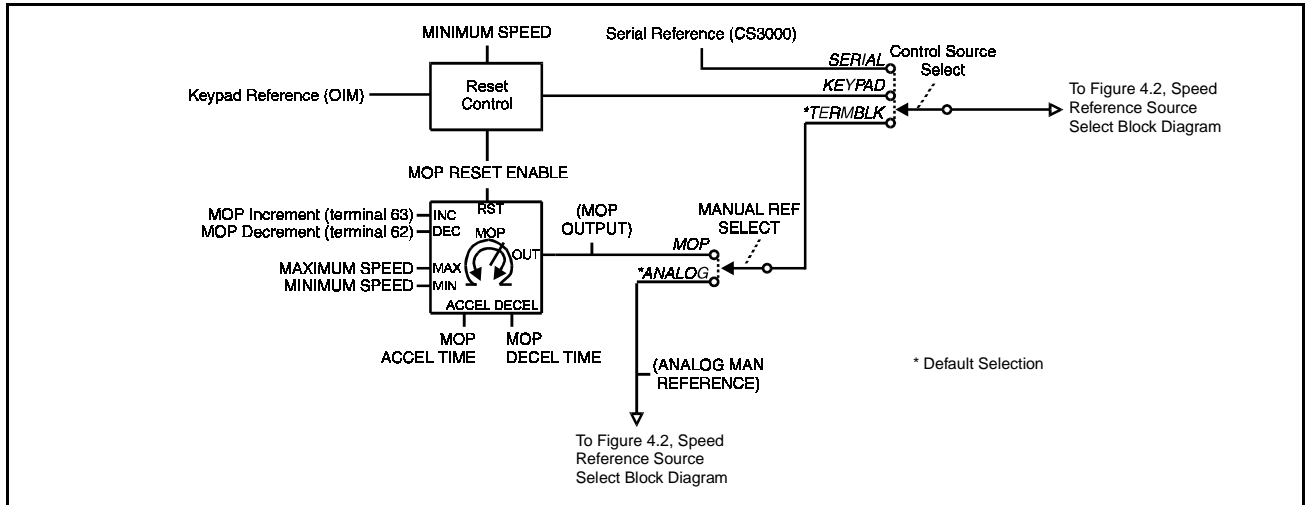

Figure 4.3 – MOP Block Diagram
- The MOP block is shown in figure 4.3.